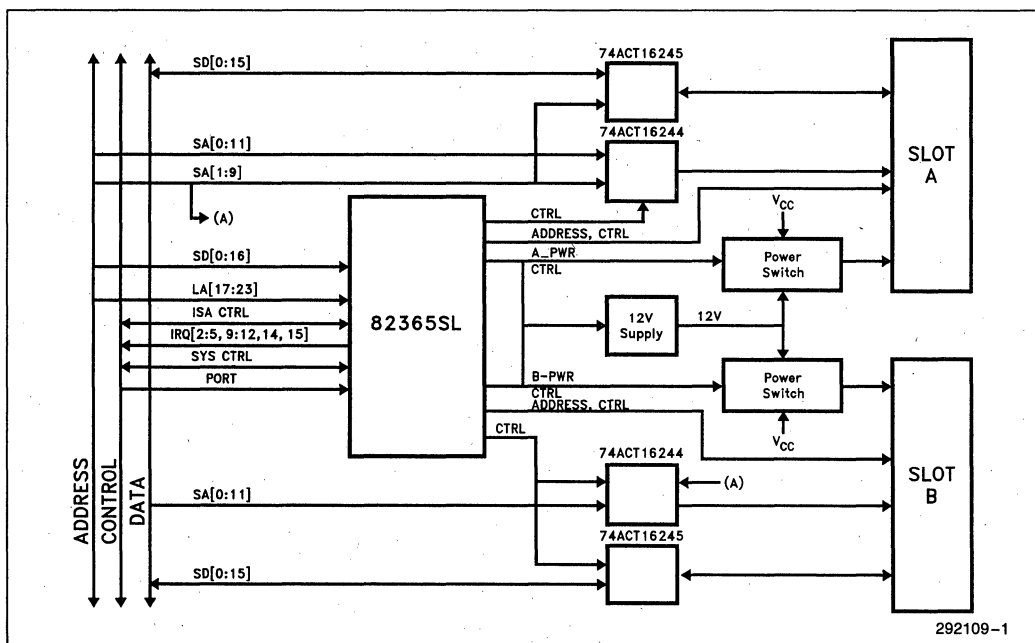

Figure 1. A Buffered, Two-Socket Implementation of the 82365SL
The PCIC interfaces the ISA bus to the PCMCIA socket, and handles interrupt steering, memory and I/O window mapping, and power management. A schematic for creating two fully buffered sockets is found in the 82365SL™ datasheet and is included here as Figure 1.(1)
If the design follows the layout shown in Figure 1, the OEM can upgrade his system to flash cards by adding two pieces of software and two lines to his config.sys file.
If the design does not utilize the recommended hardware implementation shown in Figure 1, but does use the 82365SL PC card controller, than the OEM can take the Intel iCarddrv source code and modify it to their specific hardware.
- 1) The recommended ExCA hardware shown in Figure 1.
Intel's PC Card Kit (order code "PC Card Kit") is the perfect vehicle to assist a card based PC designer. The kit includes the ExCA Developer's Board (block diagram shown in Figure 1), iCardrvl.exe, a 4 MB Series 2 flash memory card, 82365SL diagnostic software, ExCA specification revision 1.1, application notes,
If an OEM implements the ExCA hardware design shown in Figure 1, they can *check out the flash functionality of their box today* by using Microsoft's Beta version of FFS (available from Microsoft) in conjunction with a Carddrv that has been specifically modified by Intel to handle all of the Carddrv, Card Services, MTD, and Socket Services functions. This Carddrv is available from Intel by contacting your local sales office.